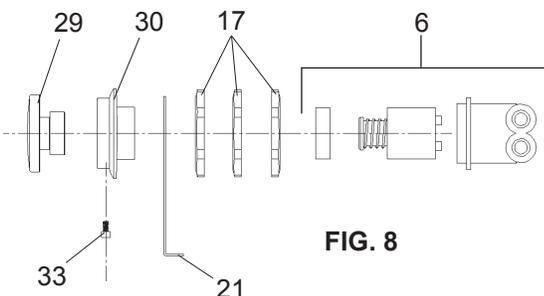

FIG. 8
15. Check stream height from bubbler. Stream height is factory set at 35 PSI . If supply pressure varies greatly from this, remove item 12 (bottom cover plate) or by using a small screwdriver through the small hole in the push button item 29 (See Fig. 8) and adjust the screw on the regulator (item 8). Clockwise adjustment will raise stream height and counter-clockwise will lower stream height. For best adjustment stream height should hit basin approximately 6-1/2" (165mm) from the bubbler.
16. Mount lower panel. Loosen the (2) #10-24 x 5/8" (16mm) screws at frame bottom lip. Slide upper tongue of lower panel under lower edge of already installed upper panel. Tighten previously loosened screws securely.